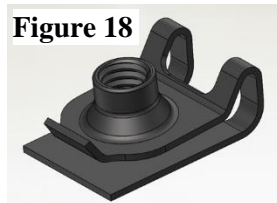

Figure 18
11. Replace the factory u-nuts at the front leaf spring mount with the included new u-nuts. **(Figure 18)**